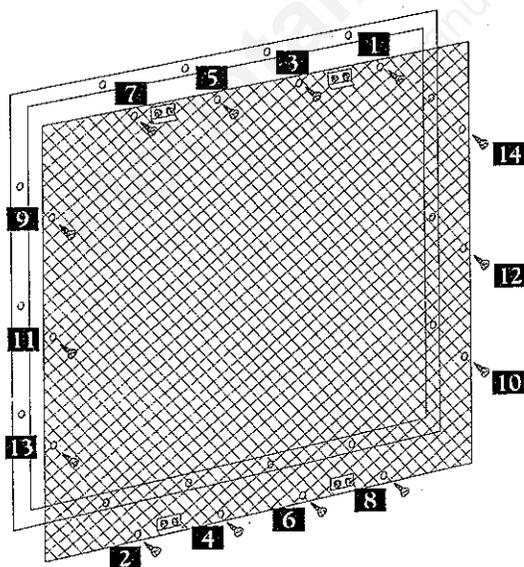

FIGURE 44. Tighten the screws in this sequence
**11.** Lift the glass/frame assembly into position on the front of the firebox. Insert all 14 screws and turn them only to finger tightness. Shift the glass to ensure that it is all the way into the gasket recess. Tighten the screws, a turn at a time, alternating across the frame. Figure 44.
7. Replace the glass. Lift the glass/frame assembly into position on the front of the firebox. Insert all 14 screws and turn them to finger tightness. Shift the glass to ensure that it is all the way into the gasket recess. Tighten the screws, one turn at a time, alternating across the frame in the pattern indicated in Fig. 44, until all the screws are tight.